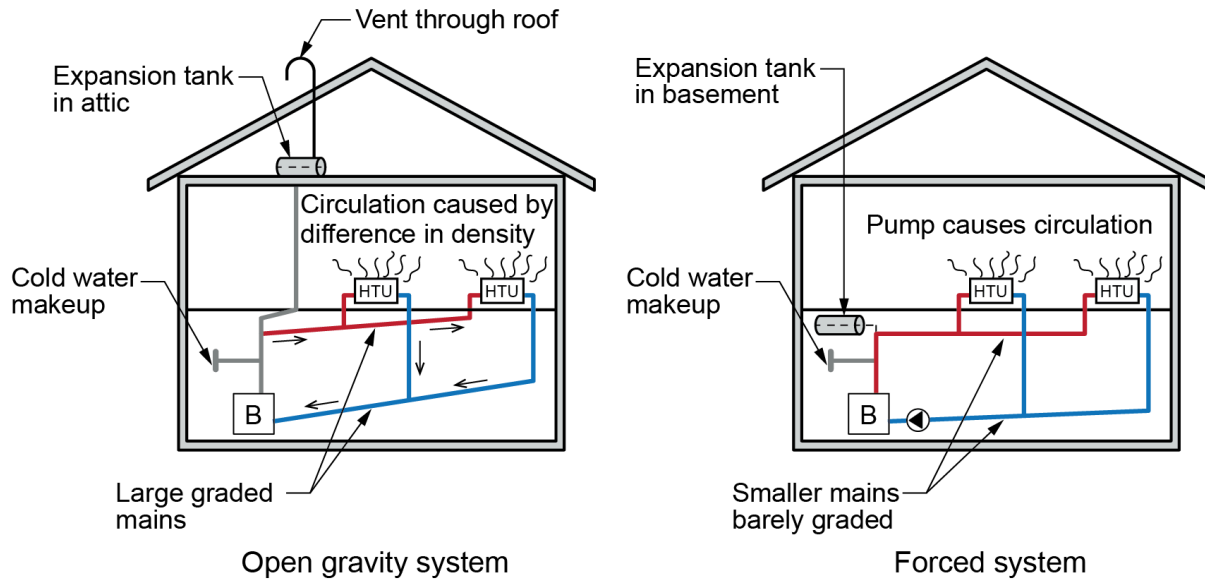

Figure 1 Water circulation systems. (Skilled Trades BC, 2021) Used with permission.
- **Figure 1** Force air furnace media filter installation is by TRU Open Press.
The earliest hydronic heating systems, known as gravity systems, operated on the principle of buoyancy (Figure 1). Water becomes less dense when heated, and this density differential between water in the boiler supply and return mains causes convection currents that carry the hot water out and up through piping to the heat transfer units (HTU). At the HTUs, the water releases its heat and regains density, falling back down through the return piping to the boiler. Because of the absence of electricity and pumps, these systems needed larger diameter piping to create enough circulation to carry heat to the far reaches of a building. With the advent of compact electricity pumps came forced circulation systems to move the water between the heat source and emitters (Figure 1). This resulted in many improvements, such as better control and smaller-diameter piping.